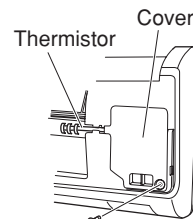

Fig. 17a
- (3) Remove the screw on the right side cover plate and open the cover. (Fig. 17a)
- (2) Make sure that the grille and frame are firmly fitted together by engaging the tabs.
- (3) Attach the thermistor on the grille. (Fig. 17a)
- (4) Close the cover and replace the screw. (Fig. 17a)